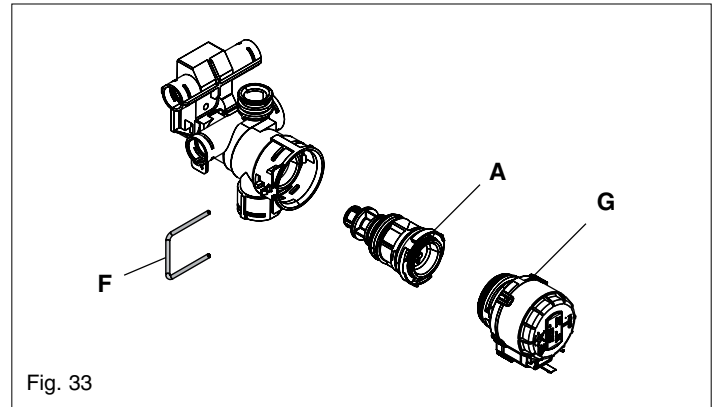

Fig. 33
6.20 VALVE ACTUATOR (fig. 33)
6.21 DIVERTOR VALVE ASSEMBLY (fig. 33)